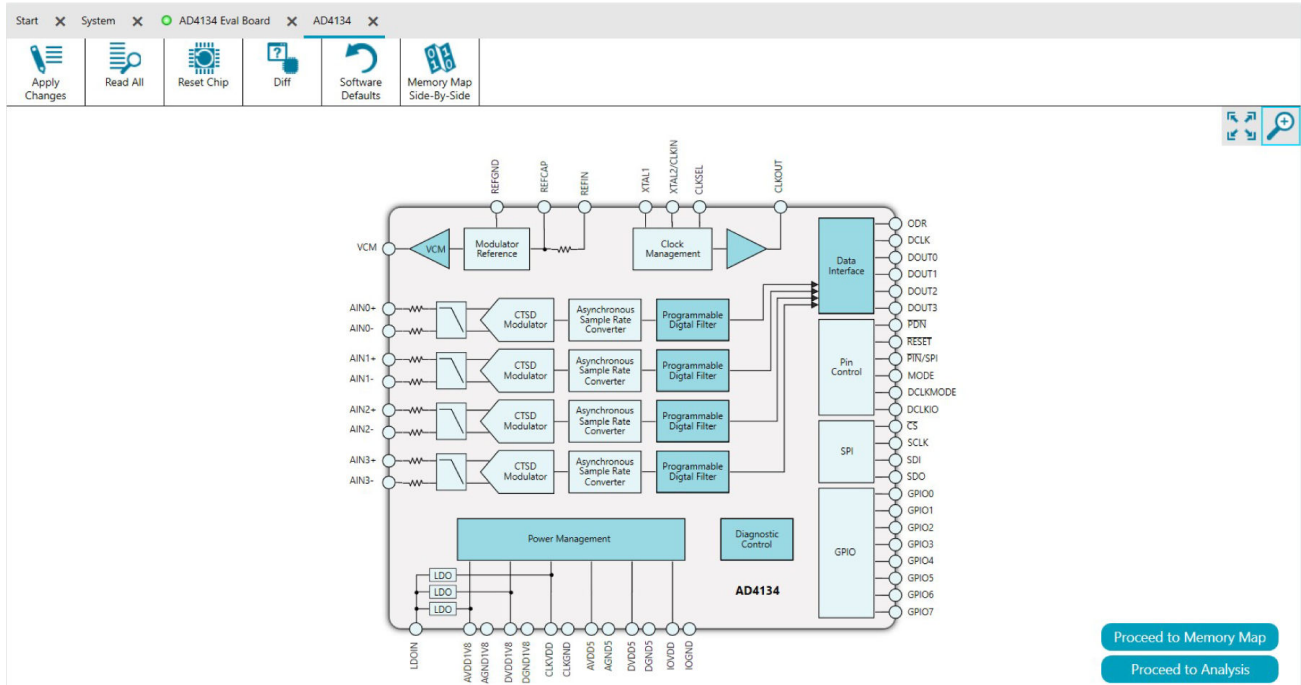

Figure 13. AD4134 Chip View Window
- Double click on the **AD4134** chip icon in the **AD4134 Eval Board** view window to open the **AD4134** chip view window shown in Figure 13.
The **AD4134** chip view window shows the programmable blocks (see Figure 13). Dark blue block icons are programmable blocks.